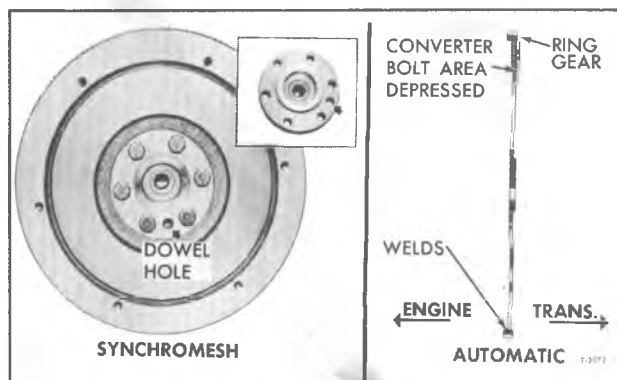

Figure 45—Flywheel Installation
2. Install flywheel on crankshaft and position to align dowel hole of crankshaft flange and flywheel (fig. 45).
engines, the flywheel must be installed with the flange collar to transmission side (fig. 45).